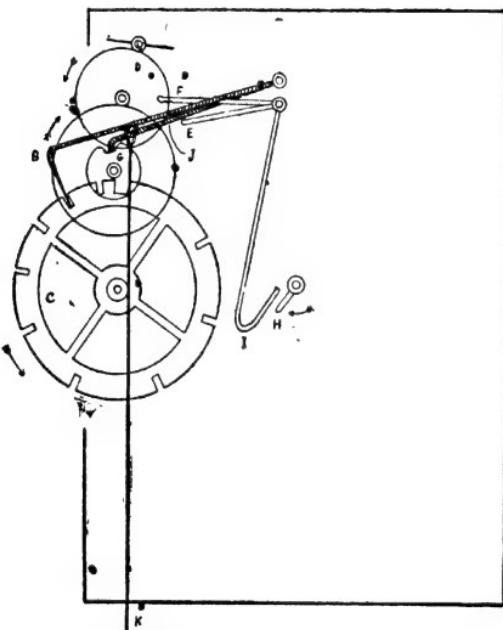

FIG. 85.—American Locking-plate Striking Work.
* **American Locking Plate Striking Work.**—Fig. 85 shows a typical American striking movement. The locking plate C is generally mounted upon the front plate, though it is sometimes upon the main wheel between the plates. The locking arm B dips into the slots in the locking plate and its inside arm rests upon the cam G, as in an English locking-plate clock. A is the letting off lever and is between the plates, its second arm E raises B, and its third arm F acts as a warning lever. Its lowest arm I is raised by the projecting wire H on the centre arbor.